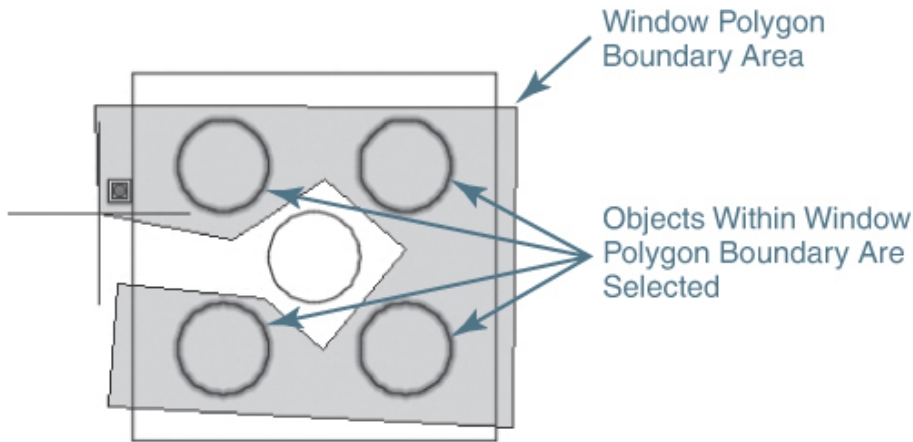

Figure 7-12
WP option, AutoCAD prompts you for the first polygon point and then prompts you for line endpoints until you press **<Enter>** as shown in Figure 7-12.
- 2 Add five circles so your drawing looks like Figure 7-12.
- 5 Create a window polygon selection similar to the one shown in Figure 7-12, and press **<Enter>** twice. The four circles at the corners of the square are erased.